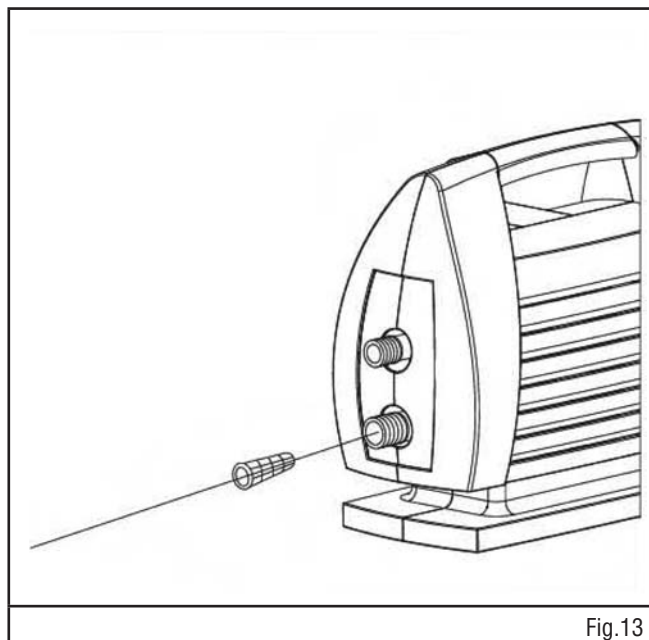

Fig.13
1. Before each use, remove quick connector and the filter screen from the pump inlet. (Fig. 13)